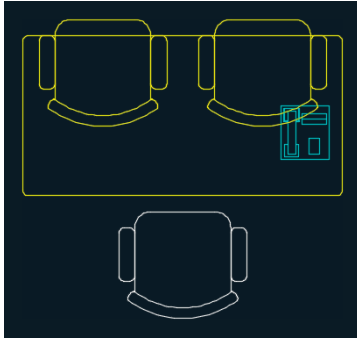

FIGURE 7.22 Redefining the chair block causes the chairs to lose their original orientation.
7. Select the Convert To Block radio button in the Objects section of the Block Definition dialog box and click OK. Click Redefine Block in the Block – Redefine Block dialog box that appears. Figure 7.22 shows the result: All three chair block references are updated.